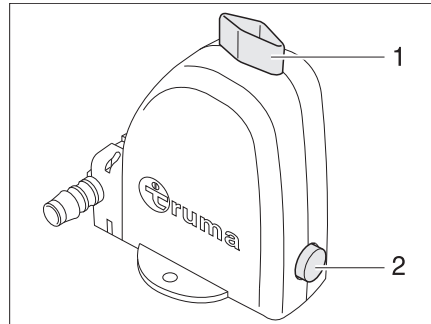

Fig. 87 Safety/drainage valve of the boiler
The boiler is equipped with a safety/drainage valve (Fig. 87). The safety/drainage valve prevents water in the boiler from freezing, when there is frost and the heater is not switched on.
- Close the safety/drainage valve. To do so turn the knob (Fig. 87,1) cross-wise to the safety/drainage valve and press in the push button (Fig. 87,2).
- Open the safety/drainage valve. To do so turn the knob (Fig. 87,1) parallel to the safety/drainage valve. The push button (Fig. 87,2) trips. The boiler is drained to the outside by the safety/drainage valve.